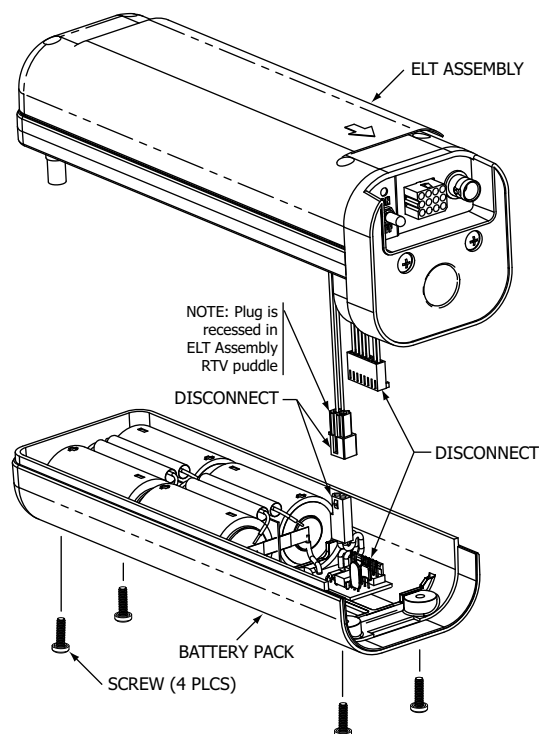

Figure 13. Battery Pack Removal
- (1) See "Figure 13. Battery Pack Removal".